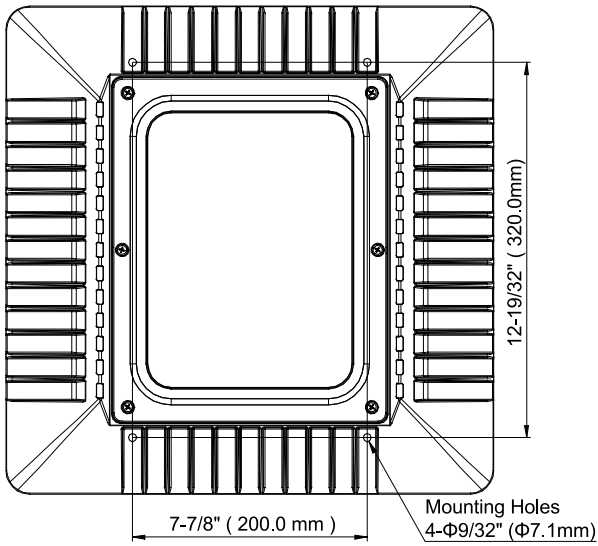

Figure 3
1. Cut a 4" round opening in the desired location of the canopy ceiling. See Figure 3.